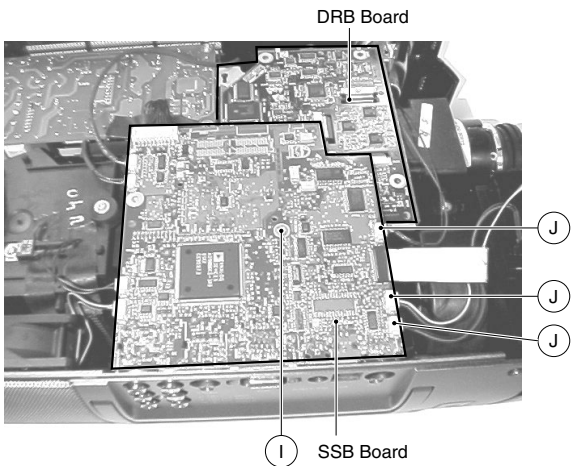

Fig. 7 CL 266450004_051.eps 240402
1. Remove screw “I” and connectors “J” (Fig. 7). Now the SSB (Small Signal Board) can be removed. The SSB is plugged onto the DRB (Drive Board).